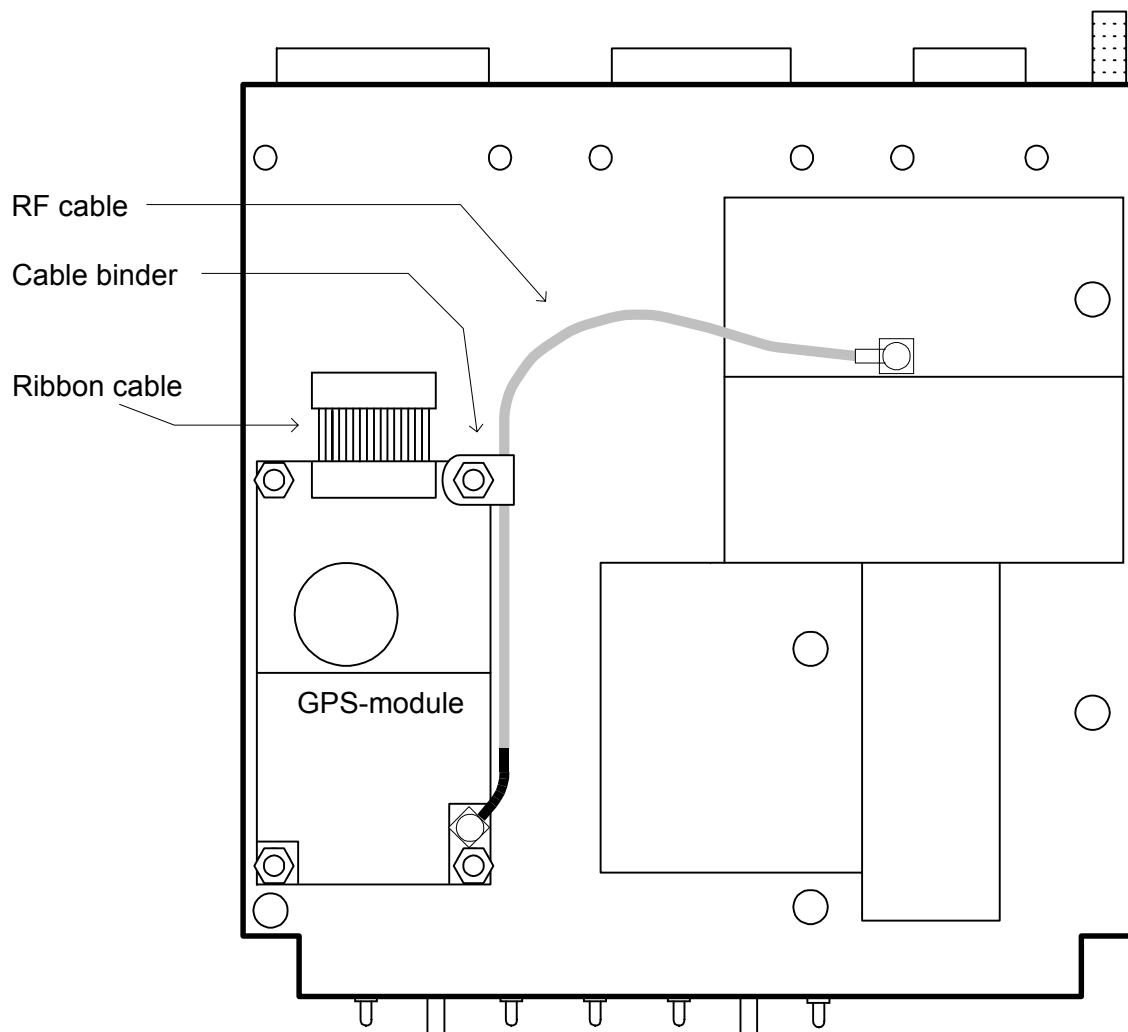

Figure 8 Installation/Replacement of a Garmin GPS-module
The GPS-module is fastened to the C-transceiver with 4 stays, 4 screws and 4 nuts. To install a GPS-module please follow the following procedure (refer to Figure 8):
- 3) Put the cable binder around the RF cable. Place the cable binder on the stay to the right of the ribbon cable as shown in Figure 8.